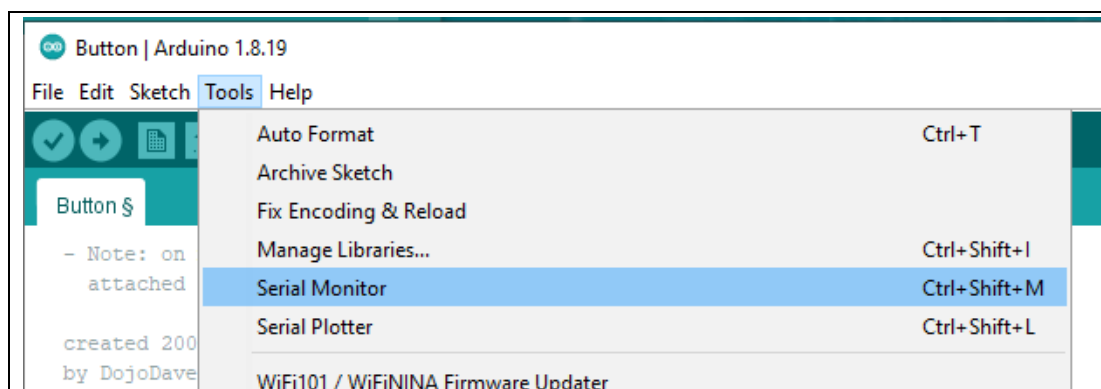

Figure-4.1 Use Serial Monitor
1. Select 'Tools' 'Serial Monitor' to turn on Serial Monitor (Figure-4.1).